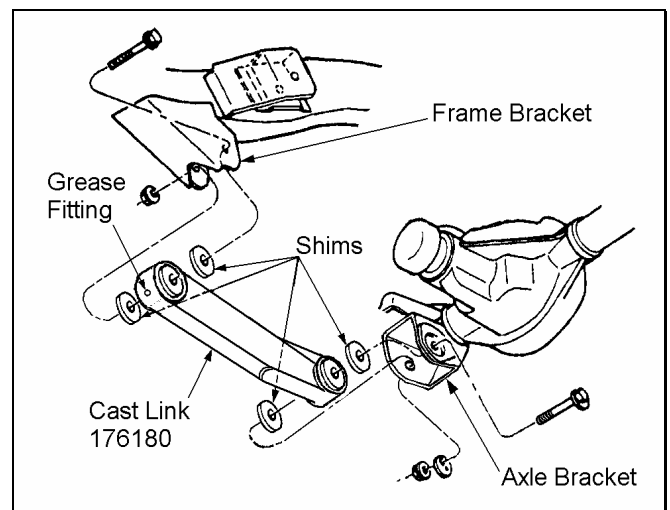

Figure 6
5) ☐ Install new Rancho cast link 176180, along with four shims from kit 860070, to the frame and axle brackets as shown in figure 6. Use original hardware but do not tighten.